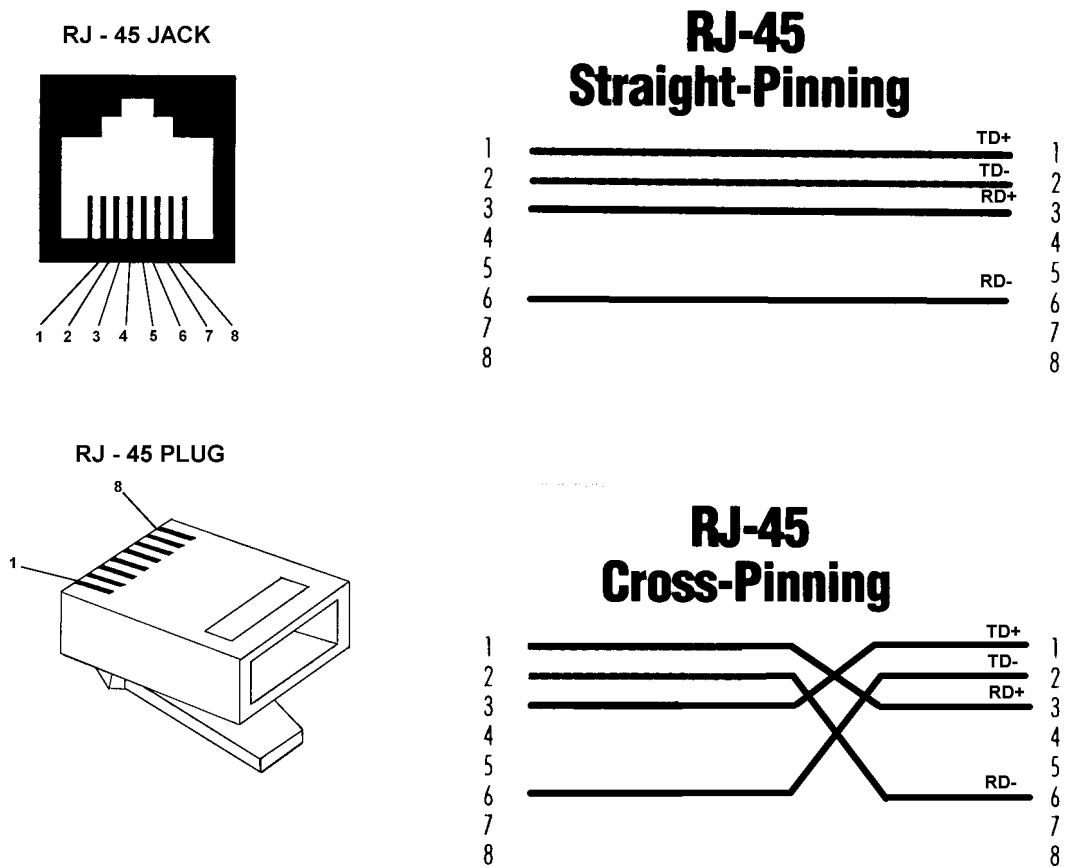

Figure 9 - RJ 45 Plug and Jack
This connector is used to input up to five(5) digital inputs tot he DSM. Refer to Figure 9 on page 9 for more information.